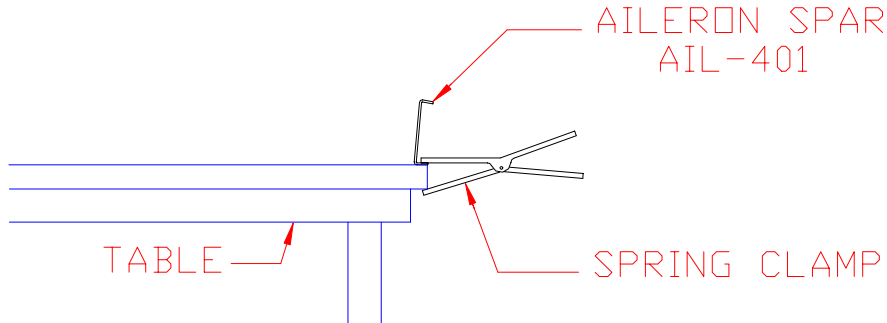

Figure 7.2.2
- 3) Clamp the Aileron Spar (AIL-401) to the edge of your table as in Figure 7.2.2.